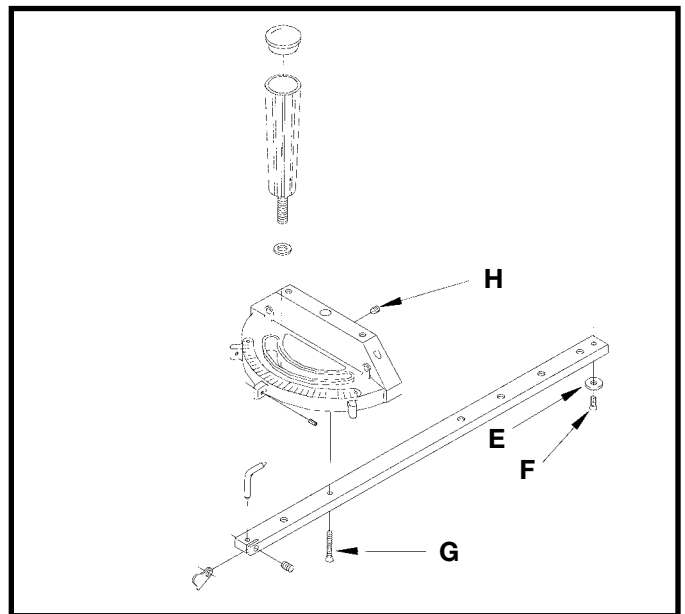

Fig. 104
5. The head of the miter gage pivots on a special tapered screw (G) that fastens the head to the miter gage bar. If the miter gage head does not pivot freely, or pivots too freely, adjust it by loosening set screw (H) Fig. 104, and turning the screw (G), in or out. Be certain to tighten screw (H) after adjustment is made.